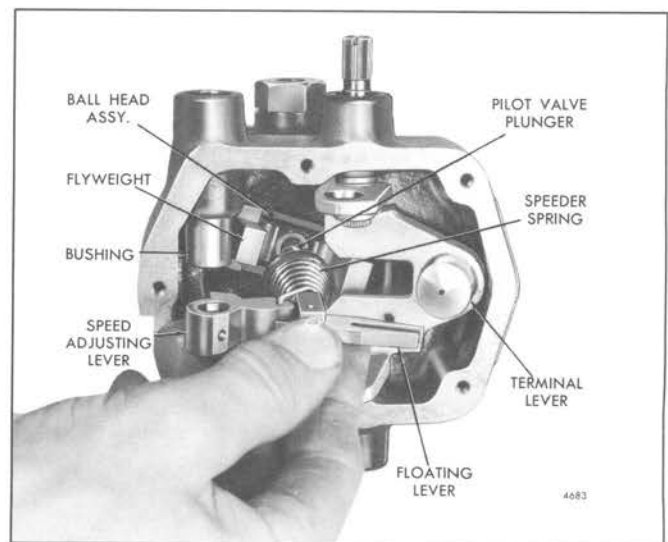
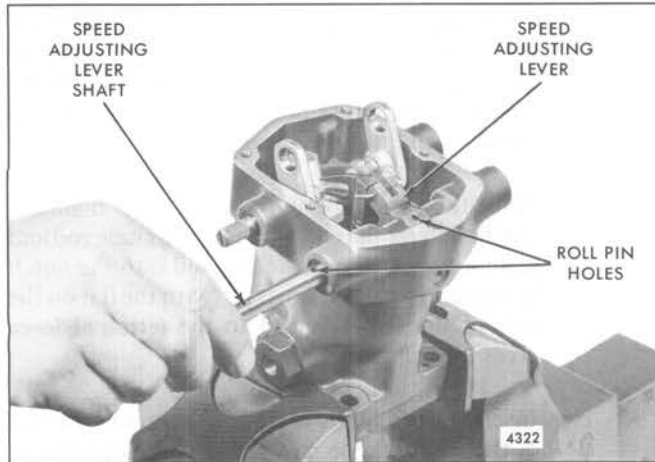

Fig. 16 – Installing Speed Adjusting Lever, Floating Lever, Speeder Spring and Pilot Valve Plunger Assembly
Fig. 17 – Installing Speed Adjusting Lever Shaft in Governor Housing and Adjusting Lever
- b. Insert the long end of the speed adjusting lever-to-floating lever wire pin through the pin hole in the speed adjusting lever and floating lever (Fig. 17).
19. Lubricate the pilot valve plunger with engine oil. Then hold the thrust bearing against the spring seat and insert the assembly in the governor housing with the speed adjusting lever facing the two bushings in the housing (Fig. 16). Start the pilot valve plunger straight into the bore of the ball head and push the assembly in until the speed adjusting lever is in position between the two bushings and the thrust bearing is resting on the lip of the flyweights (Fig. 1).
20. Install the speed adjusting lever shaft (26) and roll (spring) pin (15) in the governor housing as follows:
- b. Lubricate the speed adjusting lever shaft with engine oil. Rotate the shaft so the slot in the outside diameter of the shaft is in the same position it was in at the time of removal. Then insert the shaft in the shaft bushing, from the oil inlet plug side, with the roll pin hole in the shaft and lever in alignment as shown in Fig. 17.